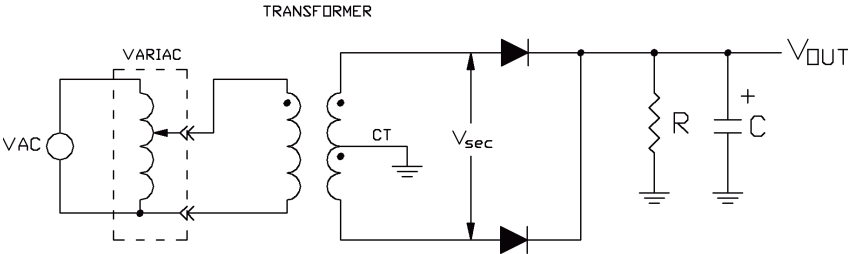

Figure 12
- Add a filter capacitor to your full wave rectifier circuit as shown in Figure 12. **Be sure to observe the correct polarity when inserting the capacitor.**